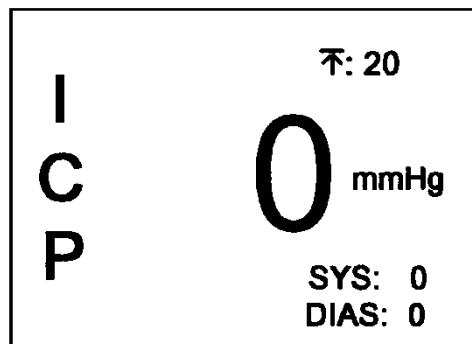

Figure 30
- 14.6.7 Use the DUT front panel arrow keys to move the menu cursor to the "SET ALARM LIMITS" item. Press the MENU key and verify that the "SET HI ALARM" screen appears as shown in Figure 30 with the displayed limit = 20.